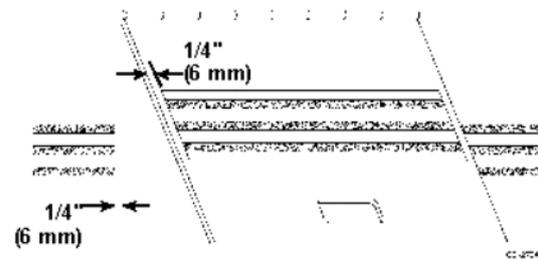

Figure 17. Applying Striping Without Wrapping
2. If the film/sheeting **will not** be wrapped around an edge, apply the stripe to within quarter 6 mm ($\frac{1}{4}$ inch) of the substrate edge. See Figure 17.